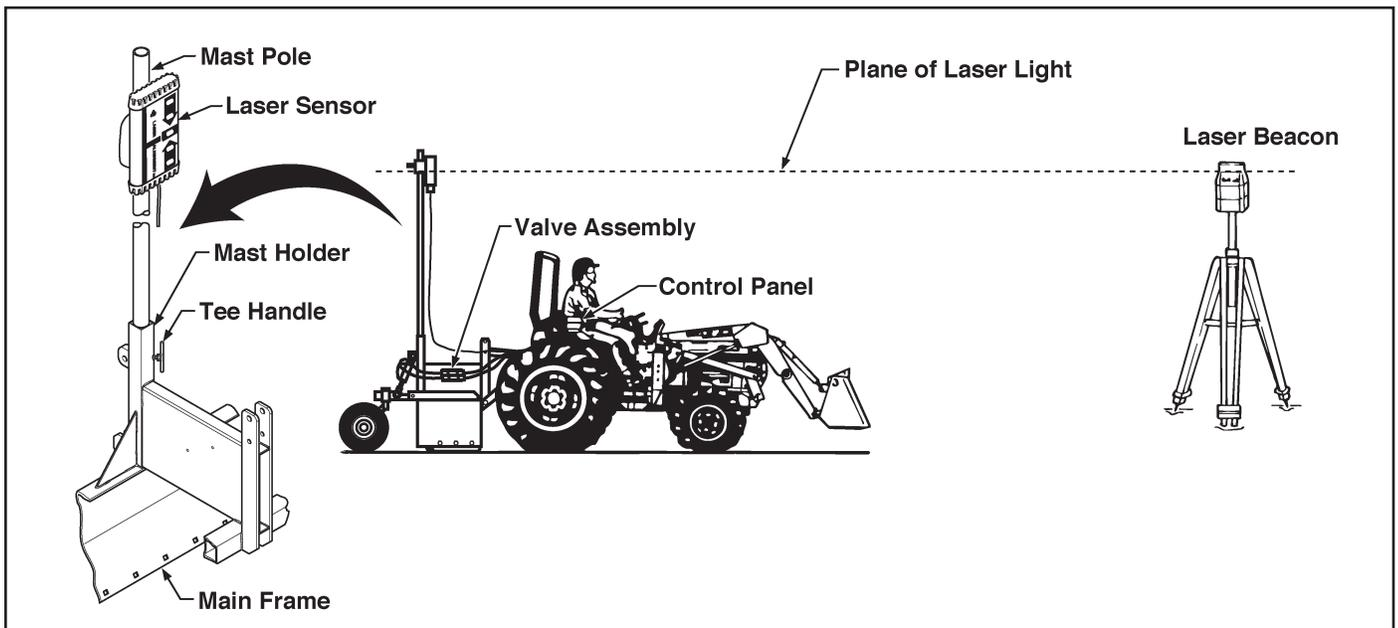

Figure 19. Components of the Automatic Control System
- Insert the Mast Pole in the holder until it rests at the bottom of the tube. Tighten the tee handle to secure the Mast. Clamp the Laser Sensor near the top of the Mast so it is higher than any local obstruction including the tractor cab or fall protection devices. (Refer to Figure 19).